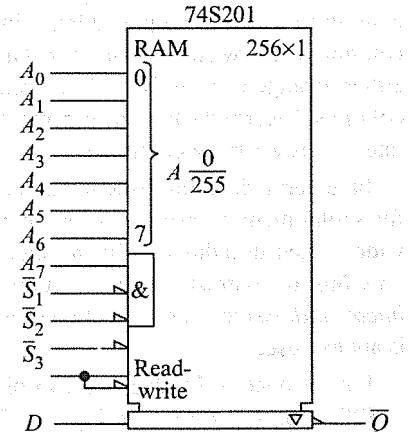

Fig. 13.13
For instance, a 74S201 is a 256-bit bipolar RAM, arranged in a  $256 \times 1$  array. The IEEE symbol for the 74S201 ('S201) is given in Fig. 13.13 on the next page. Eight address lines ( $A_0, A_1, \dots, A_7$ ) are required to select one of the 256 cells. There are three chip select lines ( $\bar{S}_1, \bar{S}_2$  and  $\bar{S}_3$ ), all of which must be low in order to activate (select) the chip. When the  $R/W$  line is high, the data bit at input  $D$  is stored at the selected address. When the  $R/W$  line is low, the complement of the bit at the selected address appears at the  $\bar{Q}$  output.
10. What binary address will select cell 145 (decimal) in the 74S201 in Fig. 13.13?